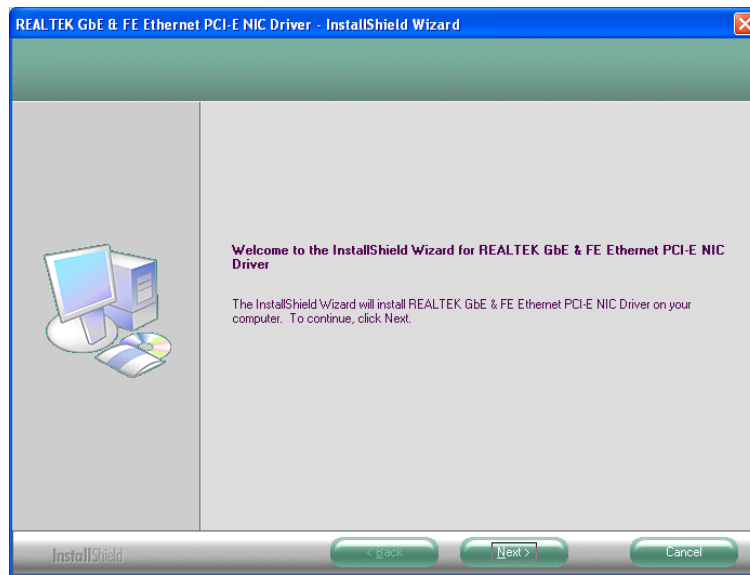

Figure 7-17: LAN Driver Welcome Screen
Step 3: The **Welcome** screen in **Figure 7-17** appears.